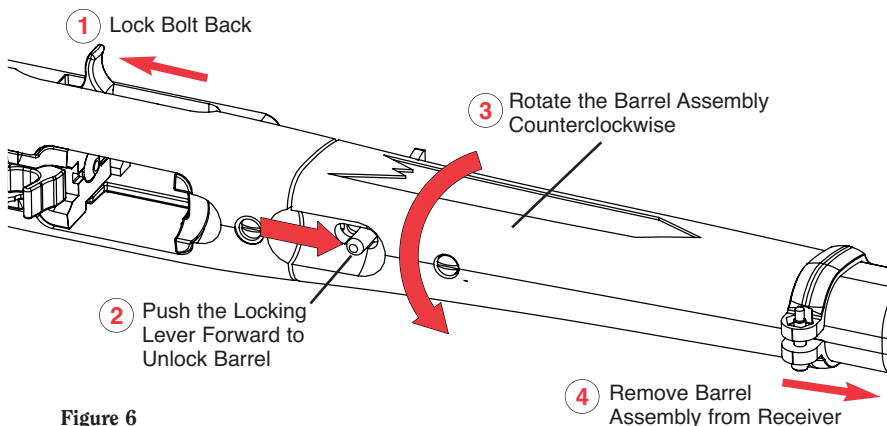

Figure 6
5. To remove the barrel assembly, (1) lock the bolt back and (2) push the locking lever towards the muzzle. Next, (3) rotate the barrel assembly **counterclockwise** and (4) pull the barrel assembly out of the receiver. (See Figure 6.)